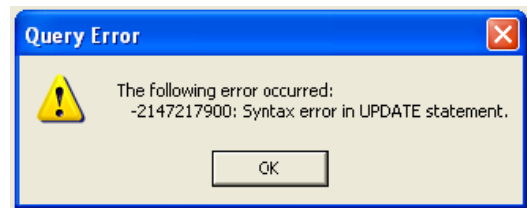

Figure 29: Query error message
- A “Query Error” message appears if the operation is unsuccessful (see example in Figure 29).